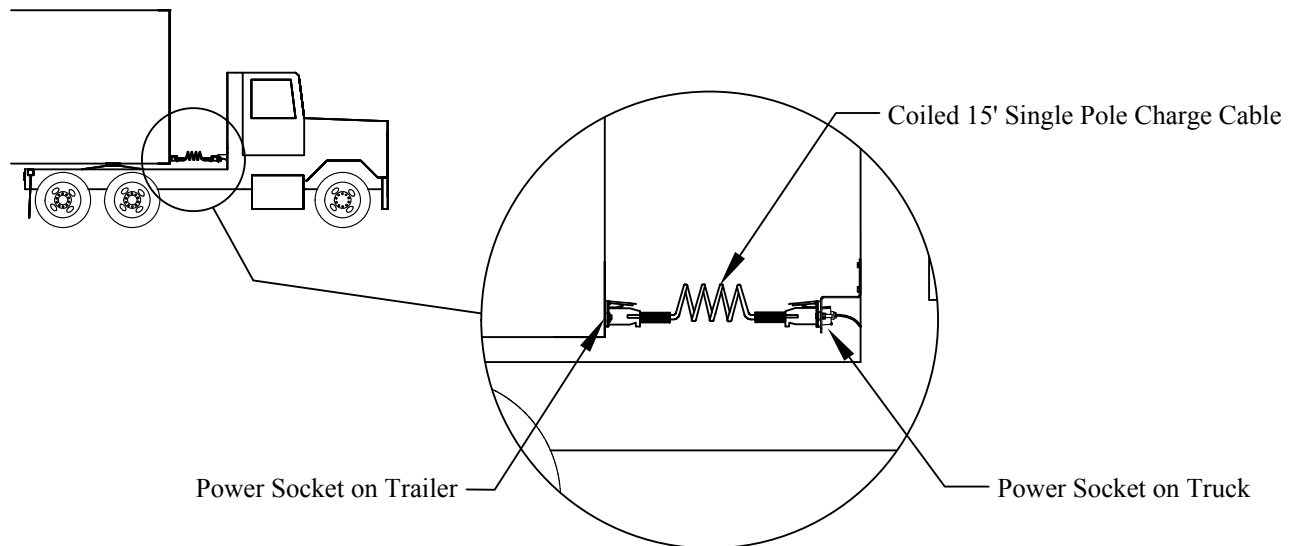

Figure 7: Single Pole Charge Line.
18. **Connect** the coiled 15' single pole charge cable to the power socket on the tractor (Figure 7).
19. **Connect** the other end of the coiled 15' single pole charge cable to the power socket on the trailer (Figure 7).